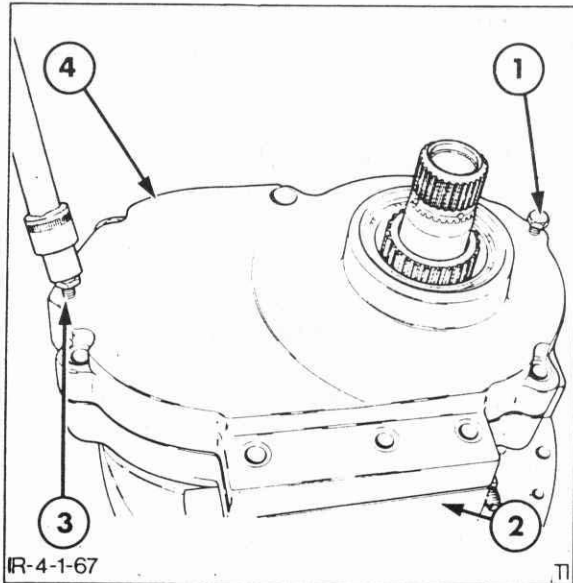

Figure 4-66
1. Install the two jacking bolts, previously used to remove the oil distributor assembly from the transmission case, into the cover bolt holes, Figure 4-66. Tighten the two bolts equally until the front cover is released from the housing. Remove the two bolts.